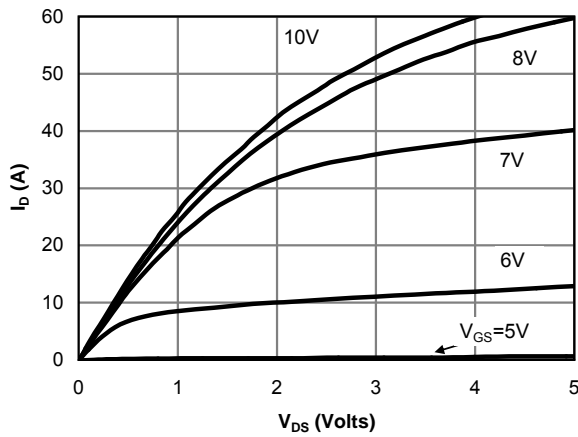

Fig 1: On-Region Characteristics (Note E)
E. The static characteristics in Figures 1 to 6 are obtained using <300ms pulses, duty cycle 0.5% max.